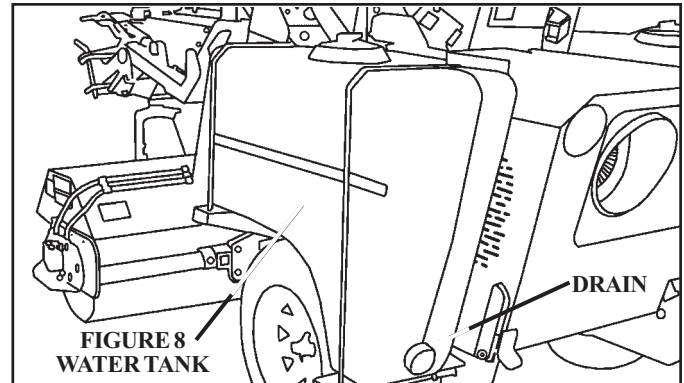

FIGURE 8
11. Drain water tanks (See Figure 8).